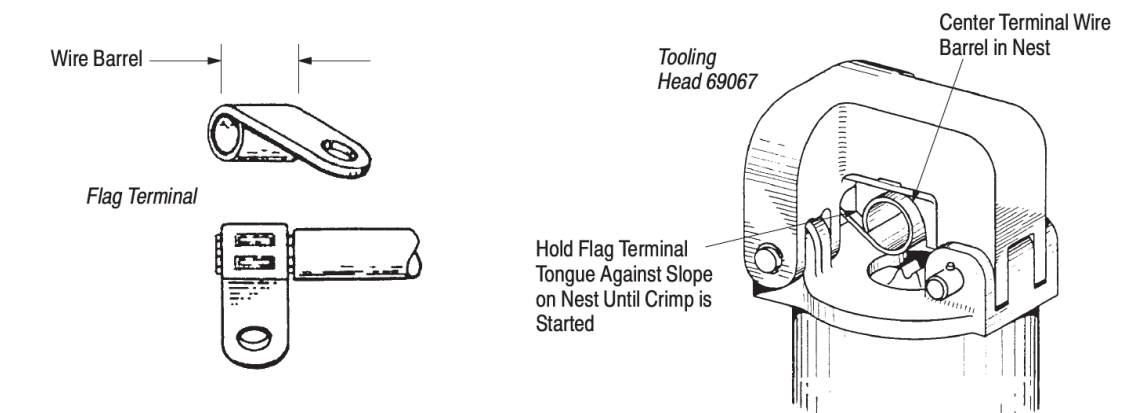

Figure 3
2. Center flag terminal wire barrel in die nest. When crimping flag terminals using head PN 69067, hold tongue of flag terminals against nest as shown in Figure 3.
4. Insert stripped wire into terminal until end of conductor is flush with or extended slightly beyond end of wire barrel (see Figure 3).